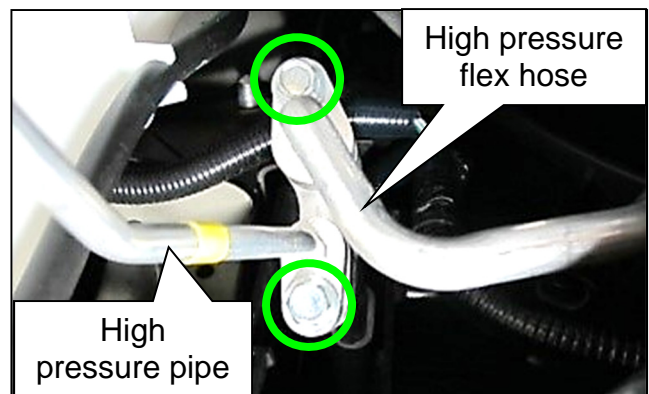

Figure 16
- Connect the high pressure pipe and the high pressure flex-hose connections (Figure 16).
- Install and torque the two (2) 12 mm retaining bolts for the high pressure pipe and the high pressure flex hose connections.